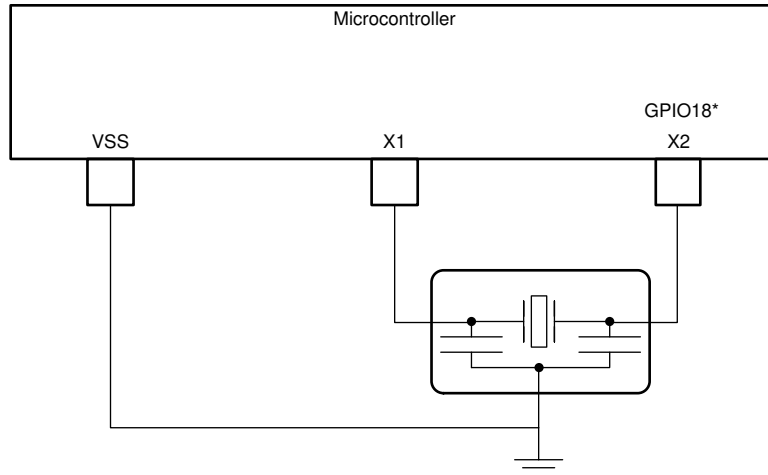

Figure 7-14. External Resonator
- An external resonator. The resonator should be connected across X1 and X2 with its ground connected to VSS as shown in Figure 7-14.